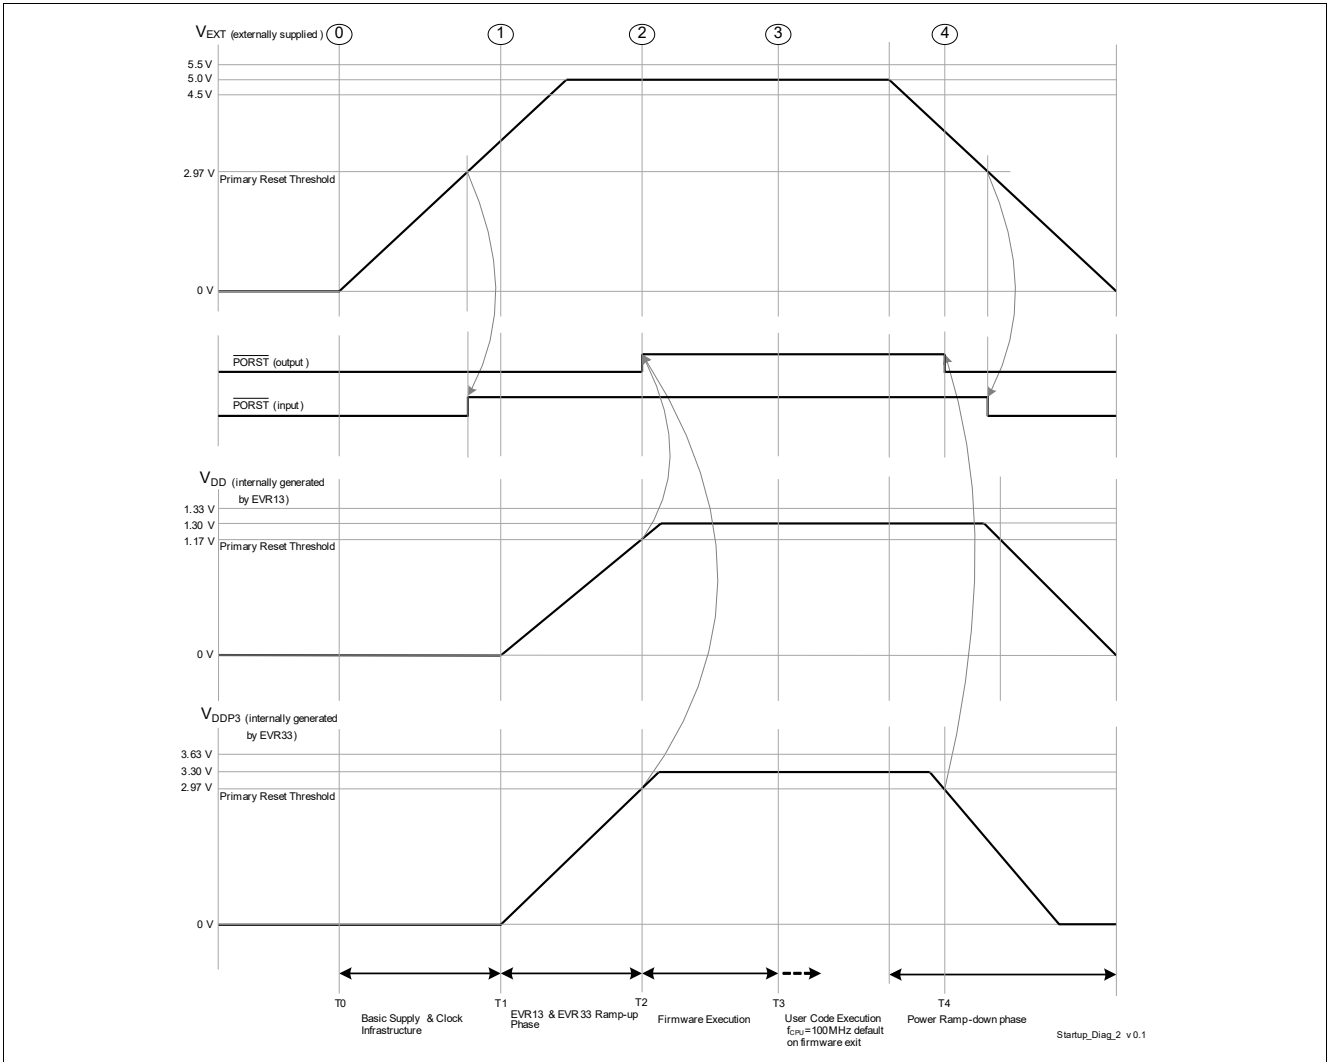

Figure 3-4 Single Supply Mode - 5 V single supply
- The power sequence as shown in Figure 3-4 is enumerated below